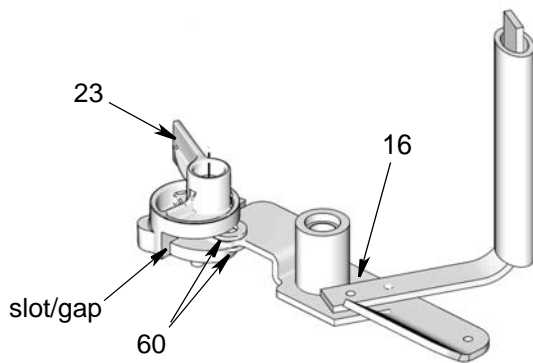

FIG. 10
- c. To correctly assemble the low level paddle (23) to the stirring paddle (16), slide the stirring paddle and washers (60) into the slot / gap (FIG. 10).